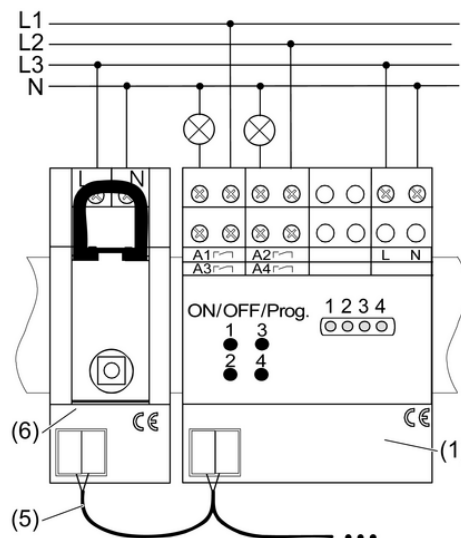

Figure 2
- Mount switch actuator (1) on DIN rail.
- Connect switch actuator according to connection diagram (figure 2). Outputs A1 to A4 can be connected to various phases.
- Connect switching actuator via a bus cable (5) with the radio receiver RMD (6) and/or additional radio actuators.